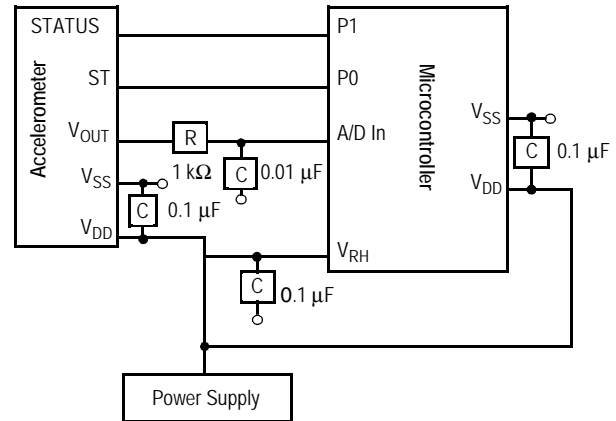

Figure 4. Recommended PCB Layout for Interfacing Accelerometer to Microcontroller
- Place a ground plane beneath the accelerometer to reduce noise, the ground plane should be attached to all of the open ended terminals shown in Figure 4.